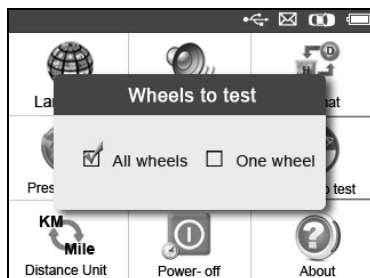

Figure 3.8
- 2) From **Wheels to test** screen, use the **LEFT/RIGHT** scroll button to select **All Wheels** or **One Wheel** mode for TPMS sensor testing. (Figure 3.8)